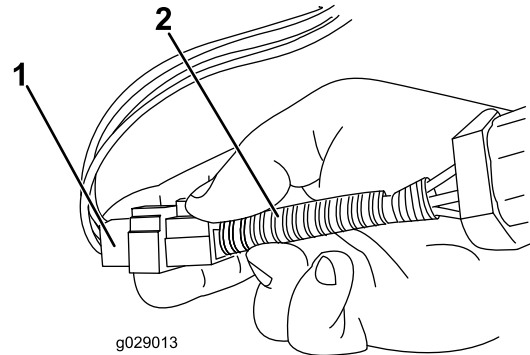

Figure 12
4. Connect the jumper harness to the fuel-stop solenoid plug connector (Figure 12).